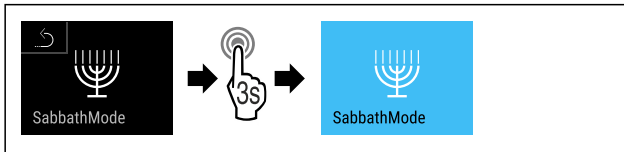

Fig. 12
- ▶ Complete the steps (see Fig. 12).